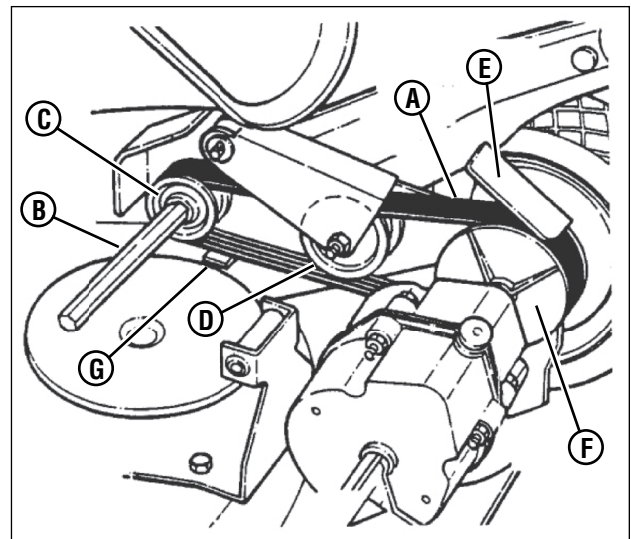

Figure 37: Poly-v belt routing
3. Place the new Poly-V Belt (**A**, **Figure 37**) over the end of the hex shaft (**B**) and onto the drive pulley (**C**).